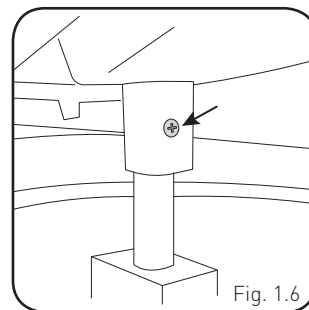

Fig. 1.6
7. Remove the single Torx screw from the base of the shifter assembly. (Fig. 1.6)